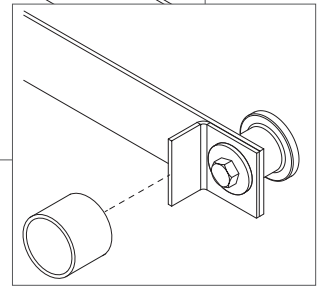

Figure 5A
10. Stretch rubber bumper (provided) over hard stop. Repeat for the hard stop on the other end of the track. (Figure 5A).